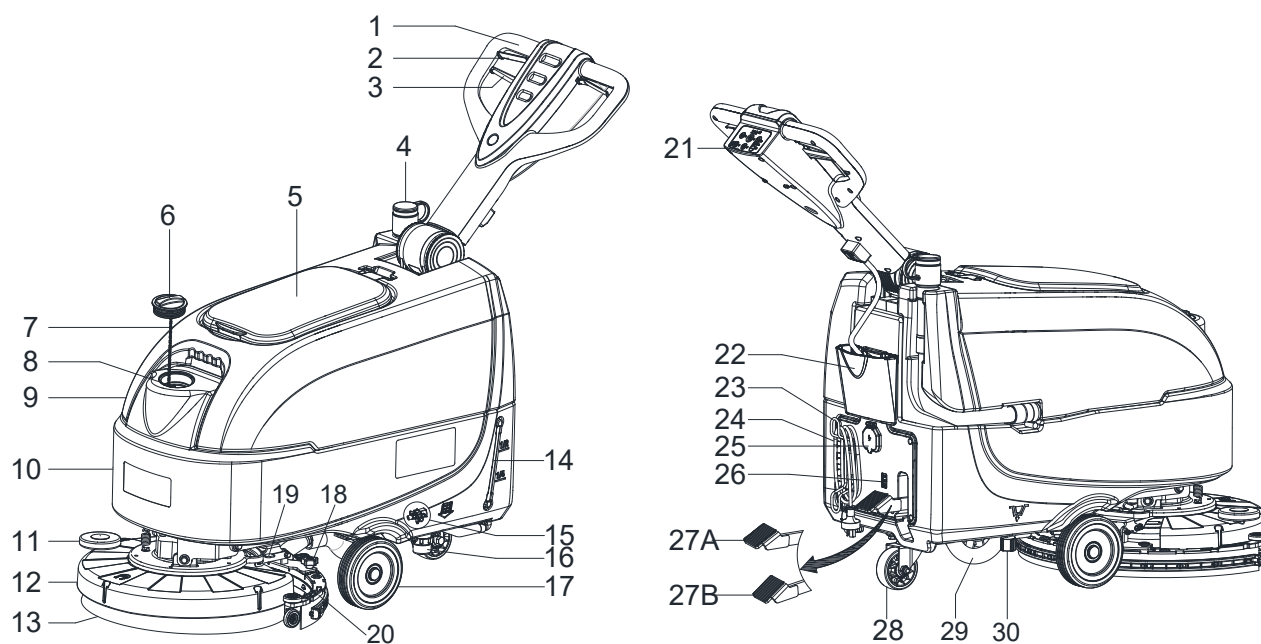

Figure 1
**MACHINE DESCRIPTION****MACHINE STRUCTURE (as shown in Figure 1)**